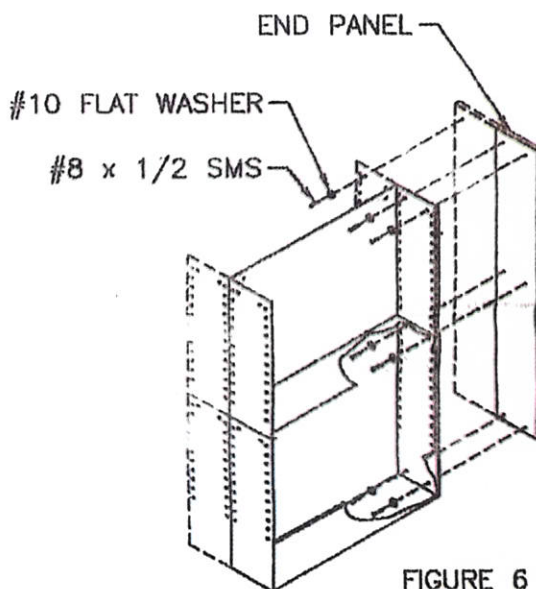

FIGURE 6
6. Install wooden end panels as shown: (FIGURE 6)
- a.) Wall end panel: stand panel in place (Panels have finished top and side edges) and mark the location of the holes through the unit side. Drill 1/8" dia. Pilot holes 1/2" deep and secure to the unit with (6) #8×1/2" sheet metal screws and flat washers.